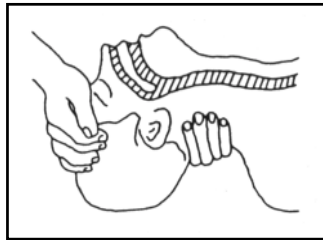

Figure 1
- Free the respiratory tracts by raising the neck and pushing the forehead back (Figure 1).